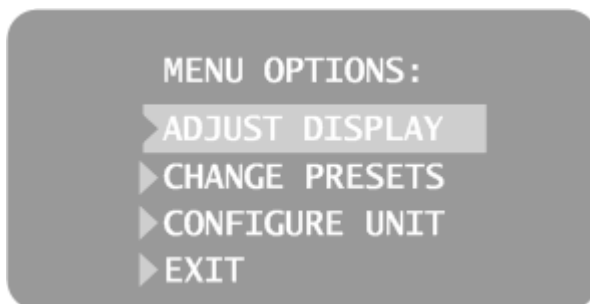
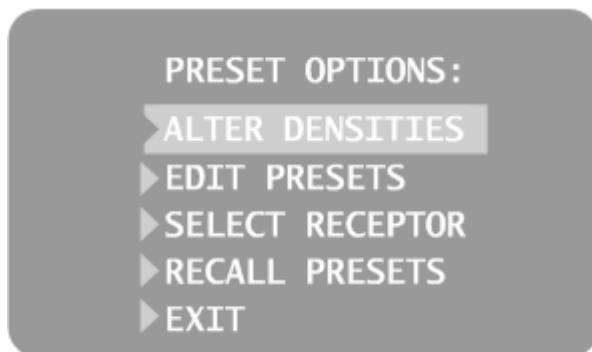
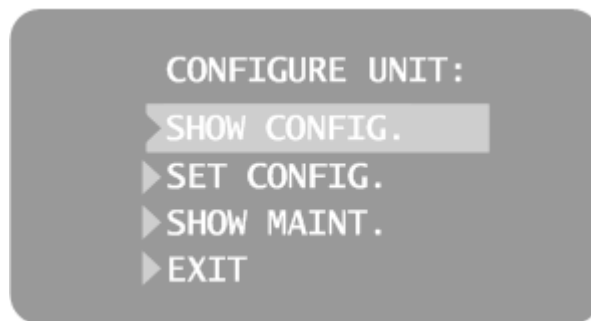
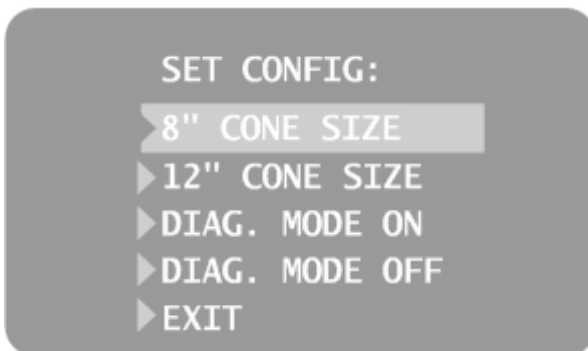

Figure 49
Figure 51
Figure 52
Figure 53
1. To enter system configuration mode, press the Tooth Selection and Patient Size Selection buttons on the Operator Panel simultaneously for 5 seconds. The display shows the Main System Configuration menu, as shown in *Figure 49*, and the Ready Indicator blinks.
1. From the Main System Configuration menu, *Figure 49*, select ADJUST DISPLAY. The Display Options menu shown in *Figure 50* will be displayed.
Displaying the Change Presets Menu	<ol style="list-style-type: none"> 1. From the Main System Configuration menu, Figure 49, select CHANGE PRESETS. The the Preset Options menu shown in Figure 51 will be displayed. 2. Selecting EXIT returns the display to the Main System Configuration menu.
1. From the Main System Configuration menu, Figure 49, select CONFIGURE UNIT. The Configuration menu shown in *Figure 52* will be displayed.
Selecting SET CONFIG from the Configuration menu, *Figure 52*, displays the Set Configuration menu, *Figure 53*, with options to change the cone size. The Preva Dental X-ray System is preset for use with the standard supplied 8" [20 cm] Cone. The 12" [30 cm] Cone (30-A2033) is available. Using the longer Cone requires longer exposure times, which the Preva automatically selects when the Cone size is changed in the Set Configuration menu.
1. From the Main System Configuration menu, *Figure 49*, select CONFIGURE UNIT. The Configuration menu shown in *Figure 52* will be displayed.
2. Select SET CONFIG. The Set Configuration menu, shown in *Figure 53* will be displayed.
3. Select the SET CONFIG option. The Set Configuration menu, *Figure 53* will be displayed.
4. Press the down arrow to highlight the DIAGNOSTIC MODE ON option, and press Enter. The Configure Unit menu, *Figure 52* will be displayed.
5. Press the down arrow to highlight the Exit option, and press Enter. This displays the Menu Option screen, *Figure 49*.
2. Press the down arrow to highlight the CONFIGURE UNIT option, and press Enter. This displays the Configure Unit menu, *Figure 52*.
3. Press the down arrow to highlight the Set Configuration option, and press Enter. The Set Configuration menu, *Figure 53* will be displayed.